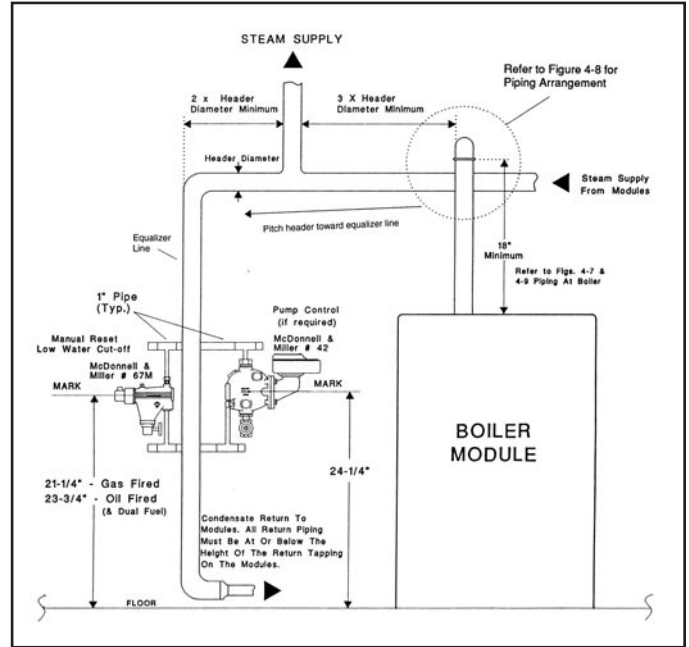
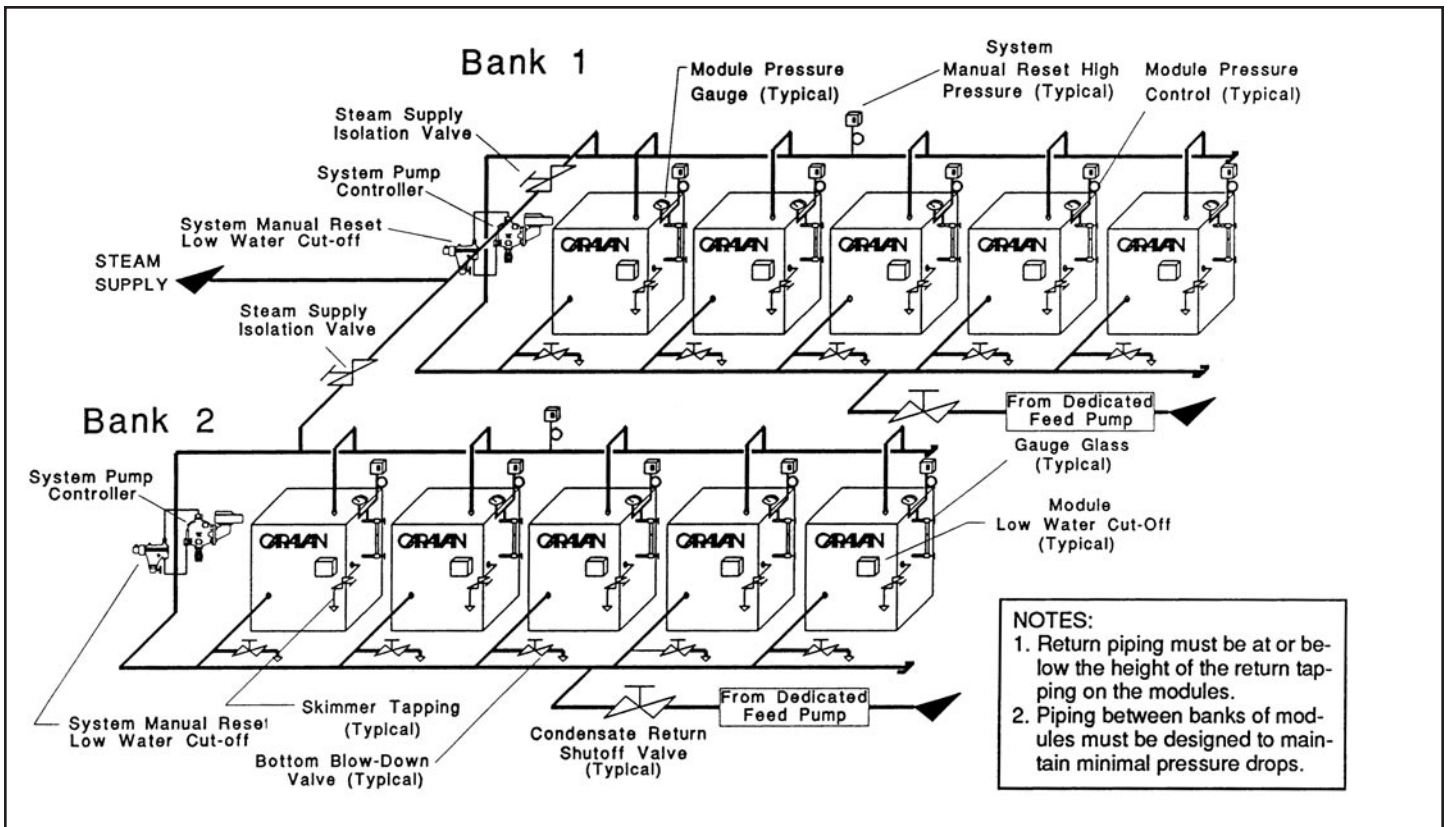

Figure 8: Piping details
Figure 11: Steam modules, isolated banks (Note: For detail piping refer to pages 8 & 9)
Modular steam boilers must be piped in a way that provides nearly equal steam pressure at all modules. Supply and return pipes and fittings should be identical on each module. The pressure drop in the supply header, between the connection to the building and the supply tapping on each module must be kept to a minimum. When installed properly, this will result in minimal variance in water levels between modules. Figure 8 shows the take off to the system after the last module and before the equalizer/drain line. Header size shown on this page (Table 8) is based on this
5. All banks of modules must have an equalizer/drain line from the supply header to the return header. This equalizer/drain should be located at the end of the header that the system steam supply is taken from. The equalizer/drain should be the same size as the supply header (see figure 8, page 10). The supply & return header for each bank should be sized according to Table 8, page 10.
7. The supply connection between the building steam main and the module steam header should be located between the last boiler on the header and the equalizer/drain. Connection must be at least 2 header diameters from the last module (see Figure 8, Page 10).
A balancing valve **MUST** be provided on the feed-pump discharge line. This valve is used to adjust water volume to prevent feed-water from entering the boilers too quickly, which can cause water levels to “bounce”. The pump discharge pressure must be slightly higher than the steam operating pressure. A rate of 1 GPM per module is more than sufficient to feed a steam Caravan system (see Table 9). The feed pump is activated by a pump control mounted on the equalizer drain line, (see Figure 8, page 10). When the boiler water level drops, the pump control energizes the feed-water pump, transferring feed-water from the receiver to the bank of modules. On systems with more than one bank of boilers that are isolated (valved), each bank must have a dedicated feed-pump with a dedicated power supply, (see Figure 11, page 12). This will prevent the operation of one bank of boilers from interfering with another.